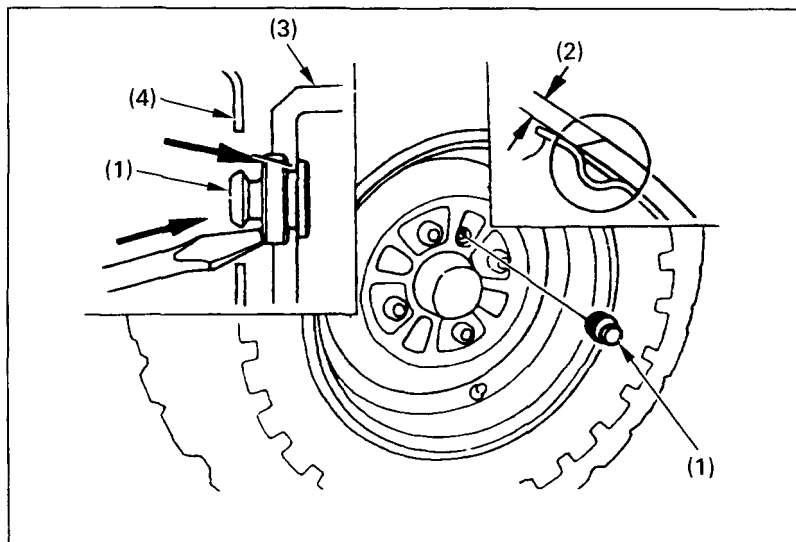
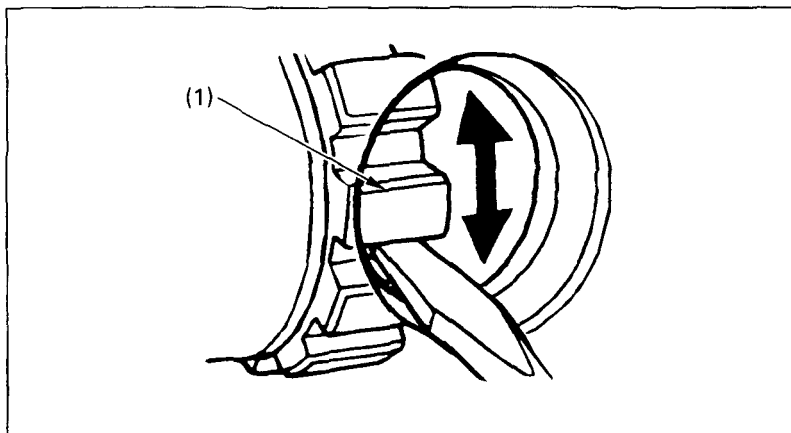

Fig. 4-21 (1) Inspection hole plug (3) Front brake drum
Fig. 4-22
(1) Front brake lever
2. Remove the inspection hole plug (Fig.4-21) and measure the lining thickness (2) on both front wheels.
3. If the brake lever free play and the brake shoe lining thicknesses are within the recommended limits, reinstall the inspection hole plugs, seating them into the inspection holes as shown in Fig. 4-21.
3. Beginning with either the left or right front wheel, remove the inspection hole plug (Fig. 4-21) and line up the hole with one of the brake adjusters (Fig. 4-22).
4. Using a screwdriver, turn the brake shoe adjuster (1) in the direction of the arrow until the front brake locks.
(1) Brake adjuster
7. Reinstall the inspection hole plug, seating it into the inspection hole as shown in Fig. 4-21.